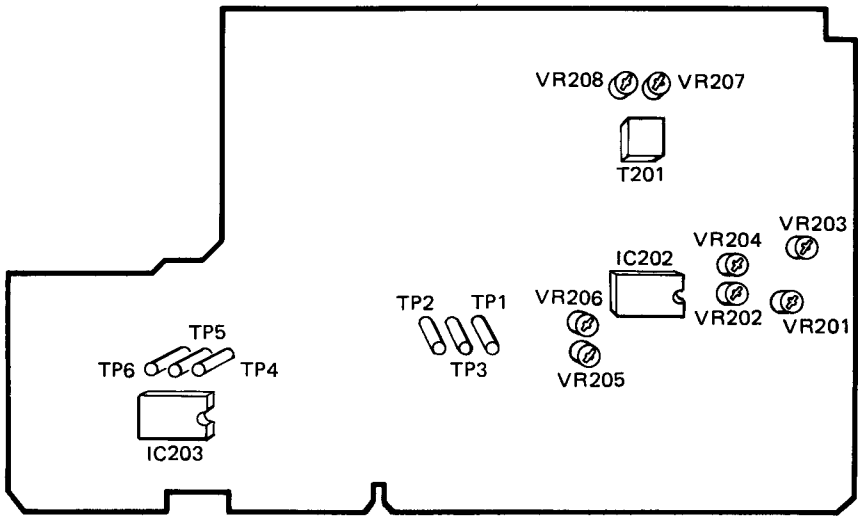

Fig. 7-3 Arrangement diagram of adjusting parts
| 1         | NORM                 | PLAY | Play back 10kHz/ - 20dB on test tape STD-331B | Head azimuth adjusting screw (Fig. 7-3) | TP1 (L)TP2 (R) | Maximum playback signal level | After completion, lock the screw |
| 1         | NORM                 | PLAY | Play back 315Hz/0dB on test tape STD-331B | Head azimuth adjusting screw (Fig. 7-3) | TP1 (L)TP2 (R) | Maximum playback signal level | After completion, lock the screw. |